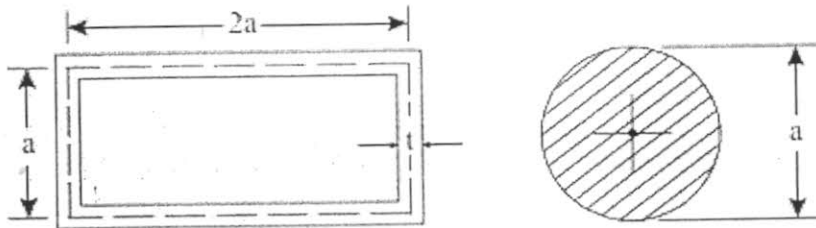

Fig. Q8a
8. a) A thin walled box section having dimensions $2a \times a \times t$ is to be compared with a solid circular section of diameter 'a' as shown in Fig. Q8a. Determine the thickness 't' so that the two sections have: